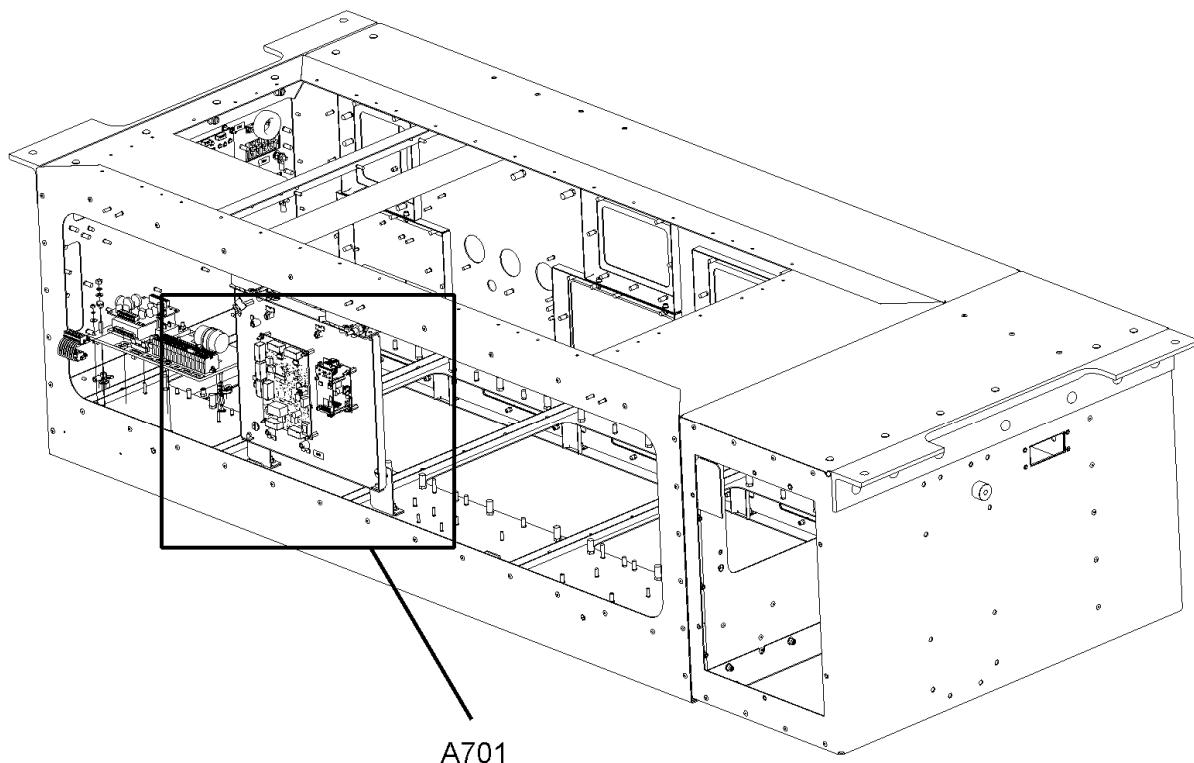

Figure 5-42: Location of A701
3. Locate A701. See Figure 5-42 for the location of the A701.